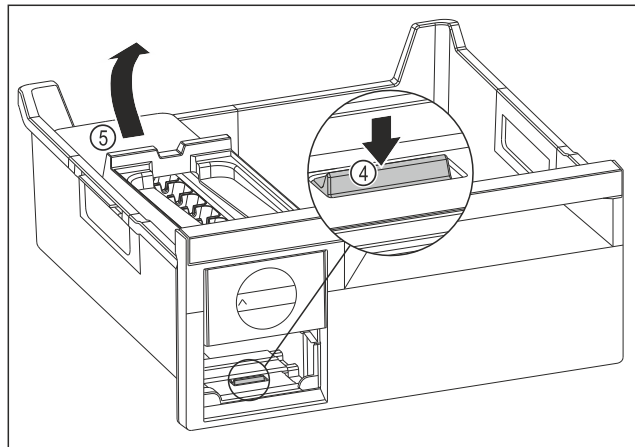

Fig. 105
- ▶ Removing the EasyTwist-Ice body: Use your finger to push the tab Fig. 105 (4) down and use your other hand to lift the EasyTwist-Ice body Fig. 105 (5) from behind at the same time.